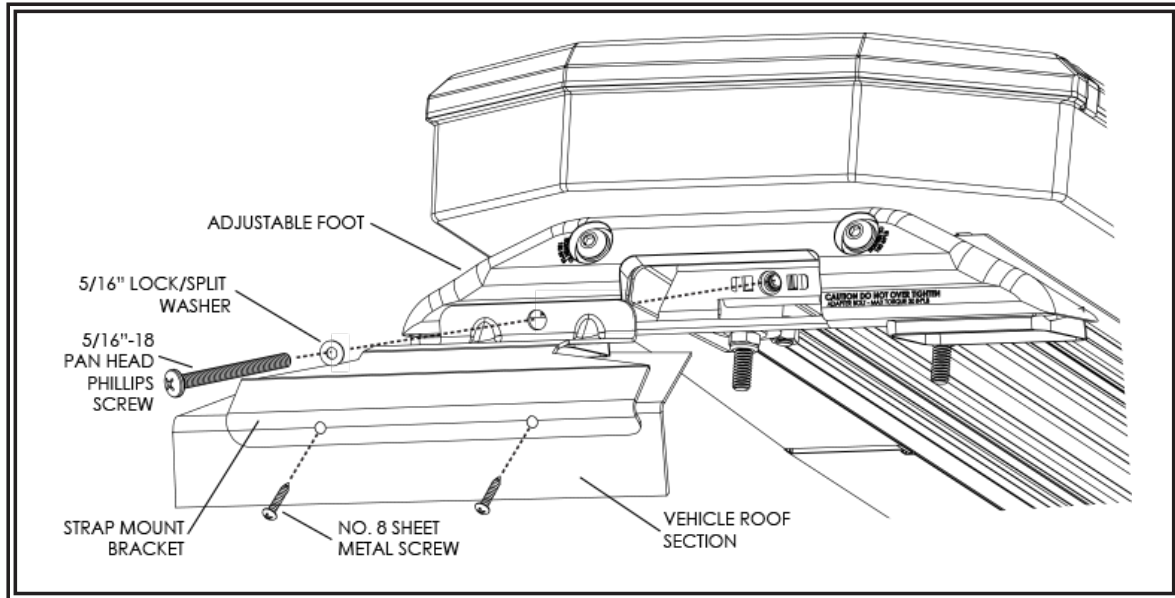

Figure 4
2. Center the lightbar across the vehicle and align the strap mount brackets to hook into the gutter of the vehicles door frame as shown in FIGURE 4.
3. Secure the feet to the lightbar in location by tightening the four (4) nuts on each foot.